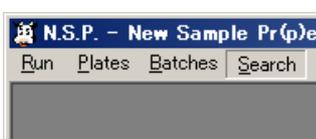

Fig. 9.1-1
(1) Click "Search" in the menu bar (Fig. 9.1-1) to open the 'Search' screen. (Fig.9.1-2).